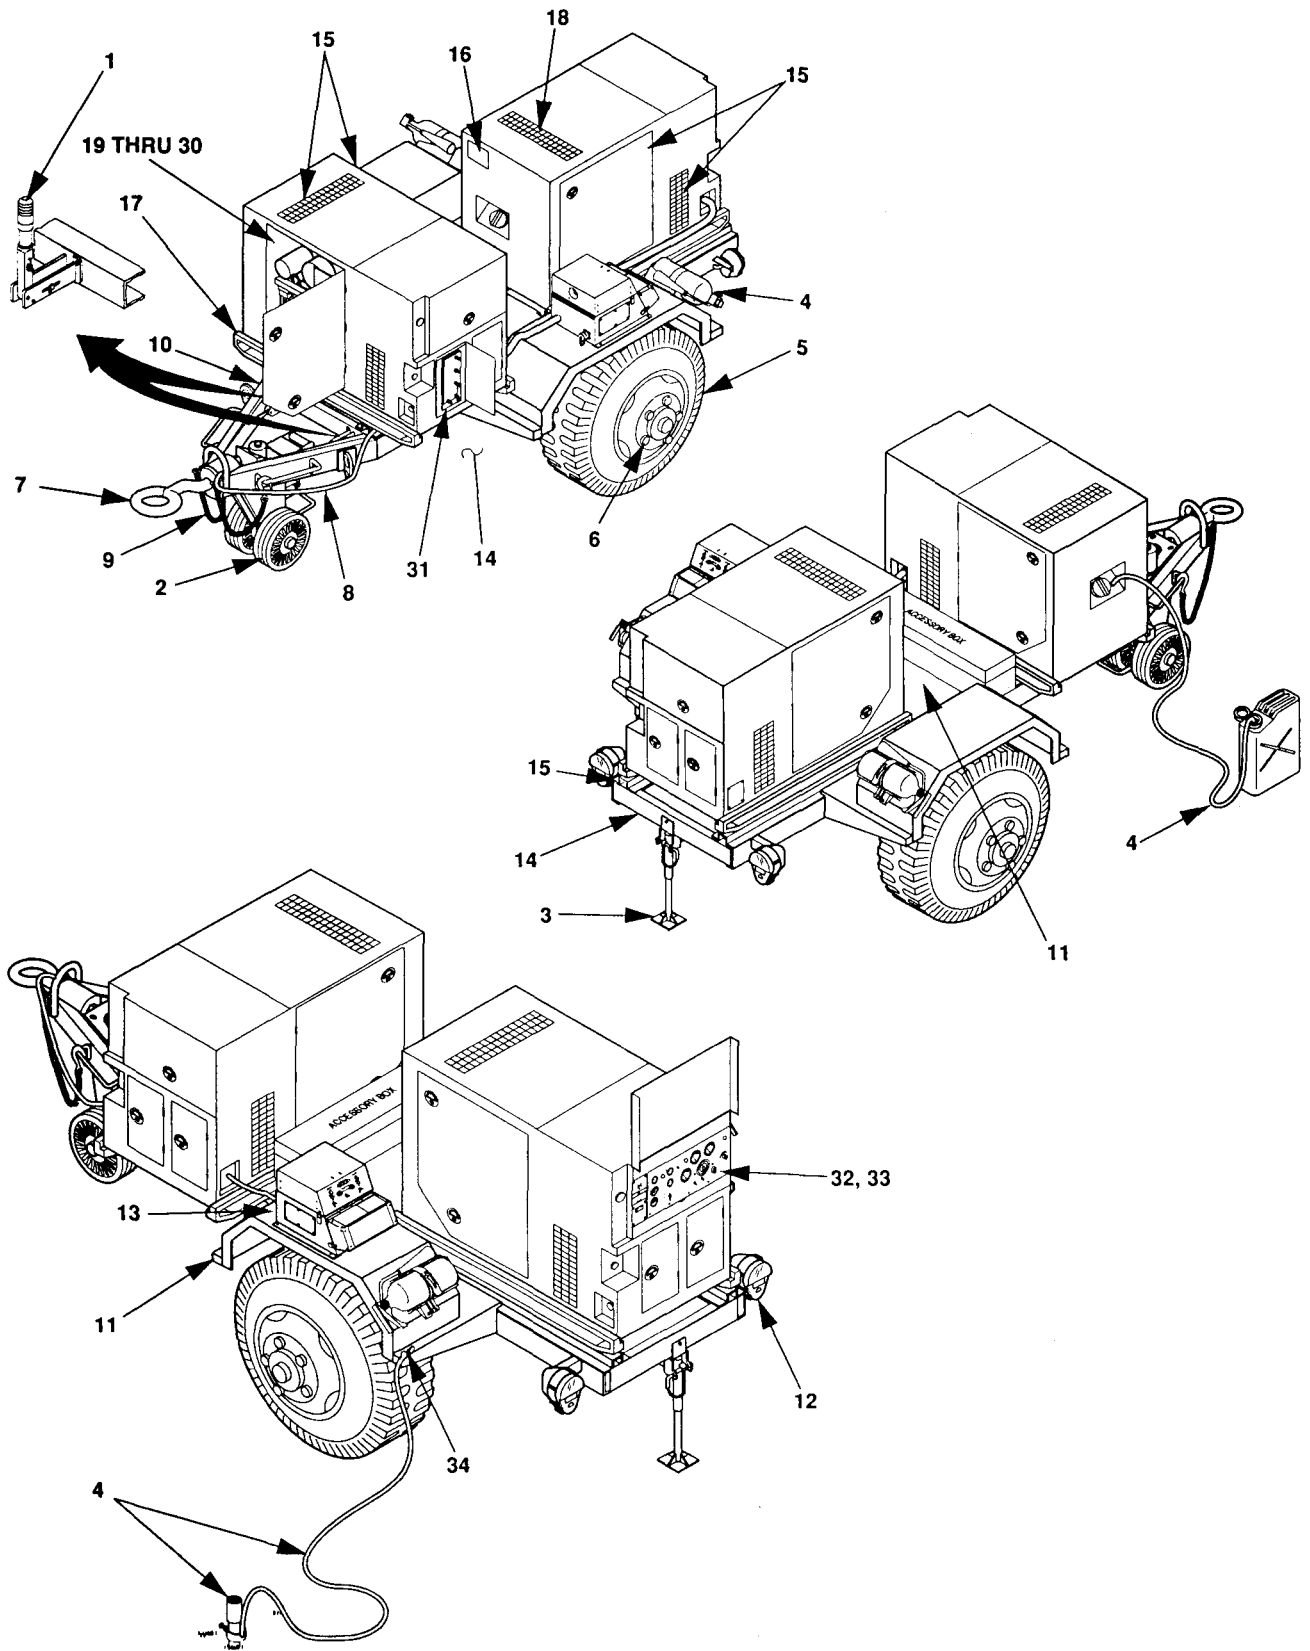

Figure 2-2. Power Plant Operator PMCS Routing Diagram (Typical).
**2-2.8 Order in Which PMCS Will be Done.** Figures 2-2, 2-3, and 2-3.1 show the order in which you are to perform your before operation PMCS. Figure 2-2 is for the AN/MJQ-37 and AN/MJQ-38, figure 2-3 is for PU-798 and PU-799, and figure 2-3.1 is for PU-798A and PU-799A. The number callouts on figures 2-2, 2-3, and 2-3.1 correspond to the numbers in the Item No. column of table 2-2. Callouts on figure 2-2 for one Power Plant generator set apply to both of the Power Plant generator sets.